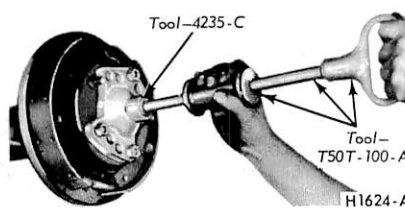

FIG. 26—Axle Shaft Removal
2. If the rear backing plate is being removed, rotate the axle shaft so that the hole in the axle shaft flange aligns with the backing plate retaining nuts, then remove the nuts. Pull the axle shaft assembly out of the housing with tool 4235-C, and a slide hammer tool T50T-100-C, (Fig. 26). Lift off the backing plate.